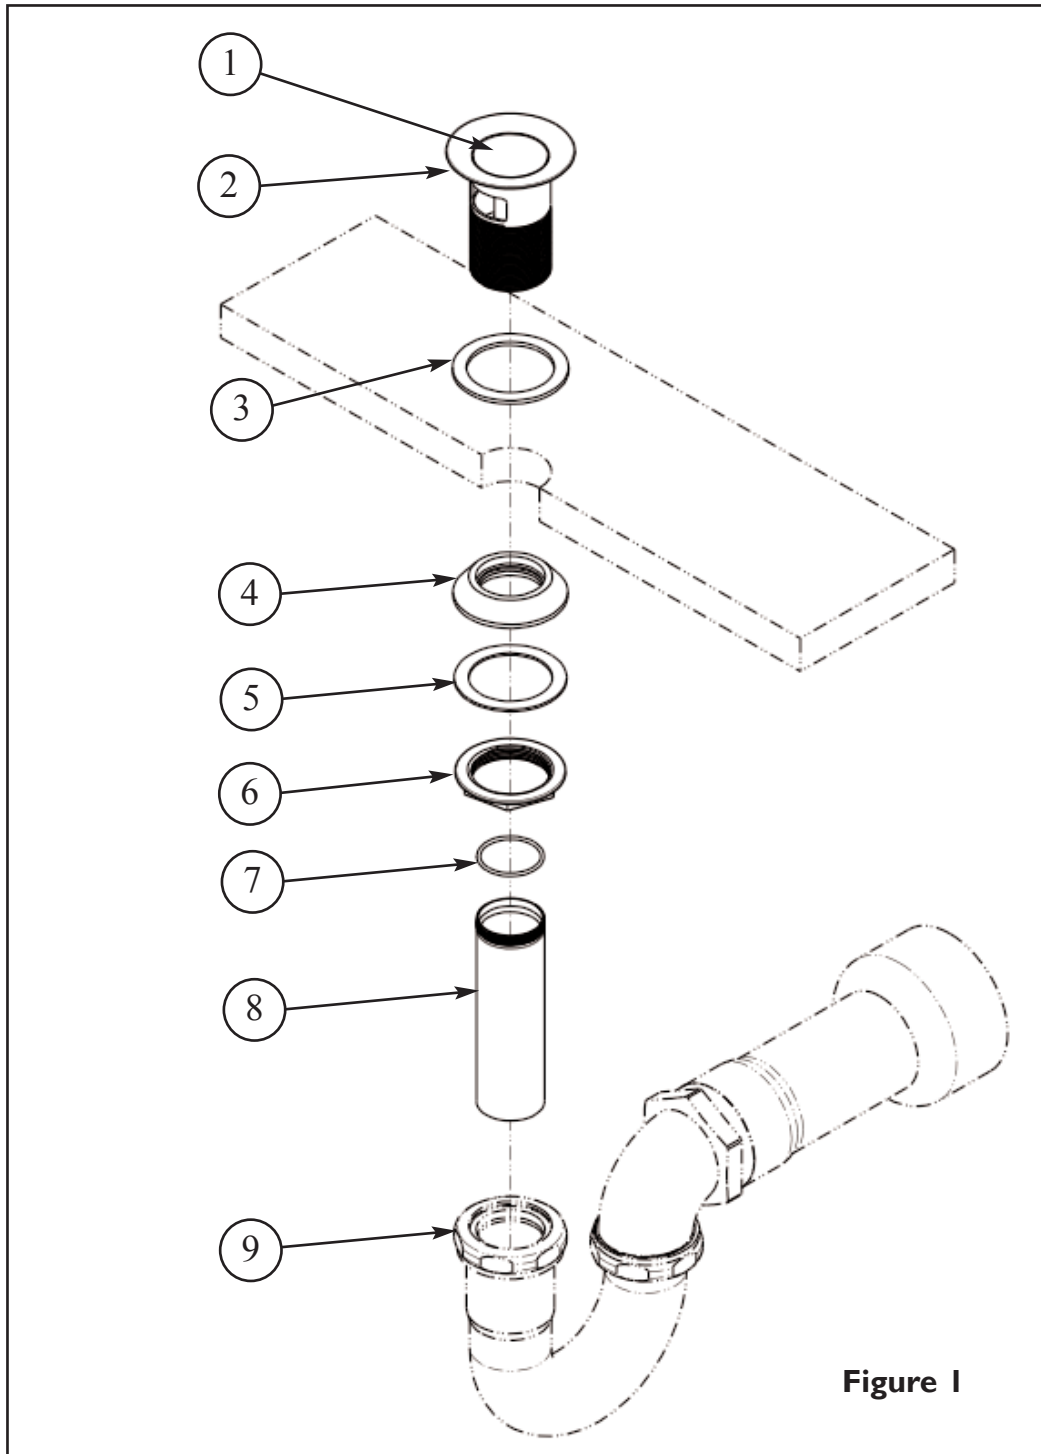

Figure 1
- Do not remove drain PLUG (1) from FLANGE (2). Place FLANGE (2) and white WASHER (3) through sink drain opening. (Clear silicone may be used in place of white washer.) From bottom side of sink, place cone shaped rubber WASHER (4) onto FLANGE (2) and slide up against sink bottom. Note: Cone portion of WASHER (4) to face upward. Next slide on clear flat WASHER (5) and secure with flange NUT (6). Assemble O\_RING (7) to TAILPIECE (8) and attach to drain FLANGE (2). Attach TAILPIECE (8) to p-trap drain (9) (not included). See Figure 1.